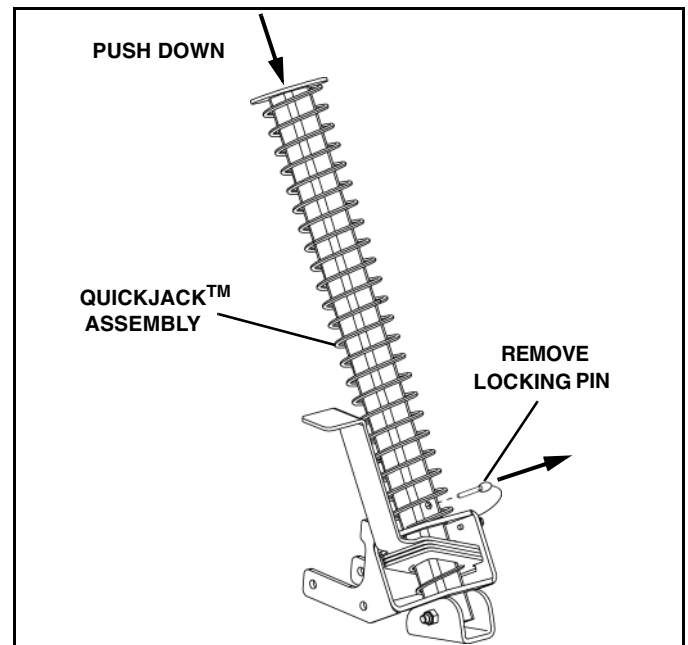

Figure 1-32
2. Remove the QuickJack™ locking pin. Push the center tube down to fully lower the jackstand. (See Figure 1-32).